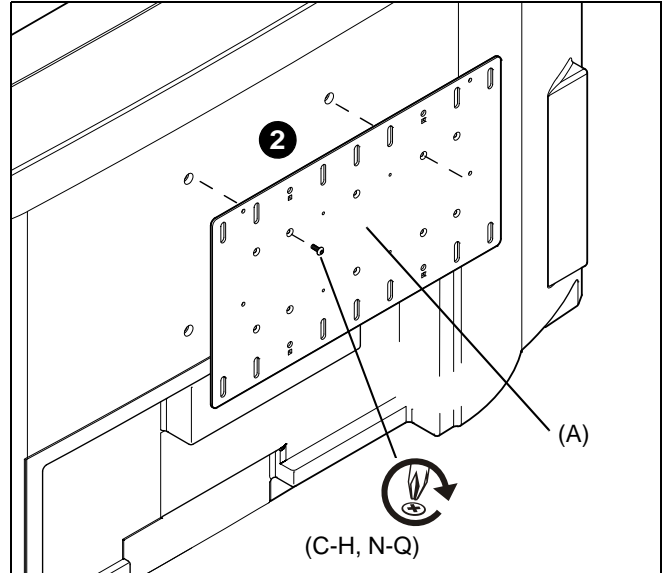

Figure 2
2. Attach Interface Bracket (A) to display using appropriate screws (C-H, N-Q). (See Figure 2)
**NOTE:** If the display has a recessed mounting surface, spacers (K or J) between the display and Interface Bracket (A) may be required.